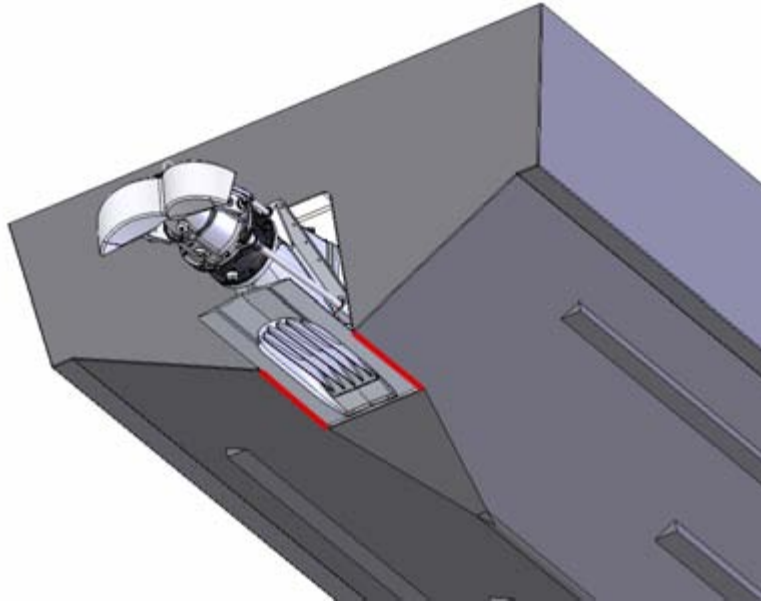

Figure 18. Sealing the bottom plate
6. Seal the gaps between the bottom plate of the jet and the hull (figure 18).